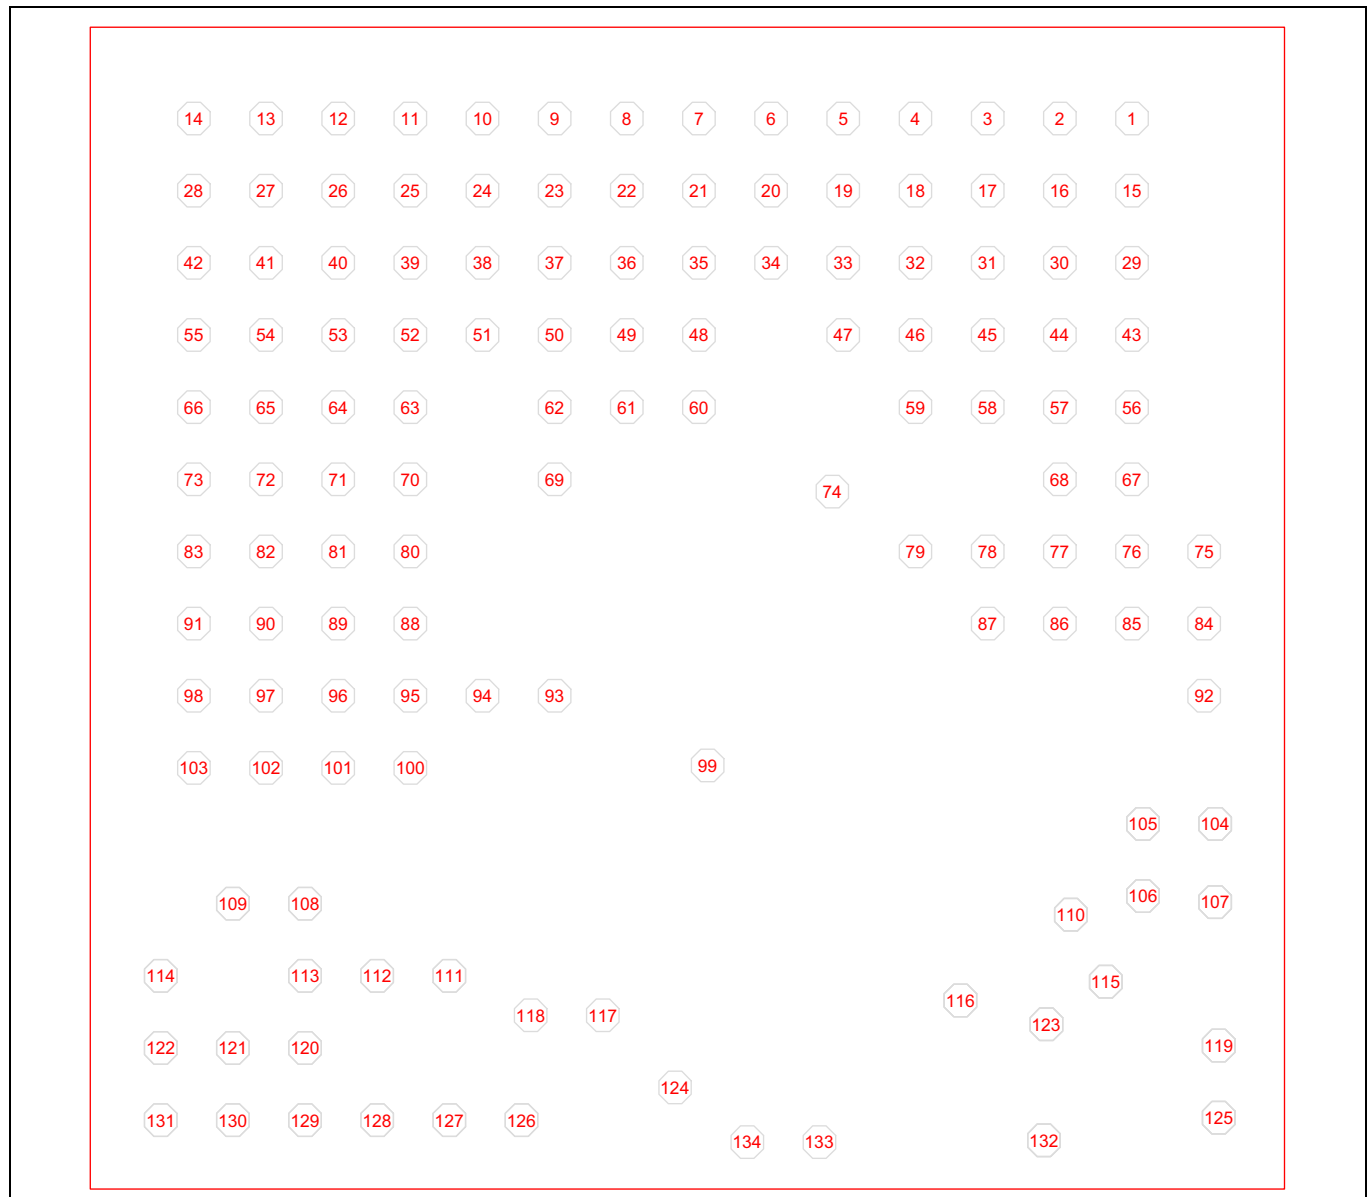

Figure 7 WLCSP ball map
The CYW20719 WLCSP package is shown in Figure 7.
9. Figure 7 shows the bottom view of the WLCSP package (Bumps facing up).